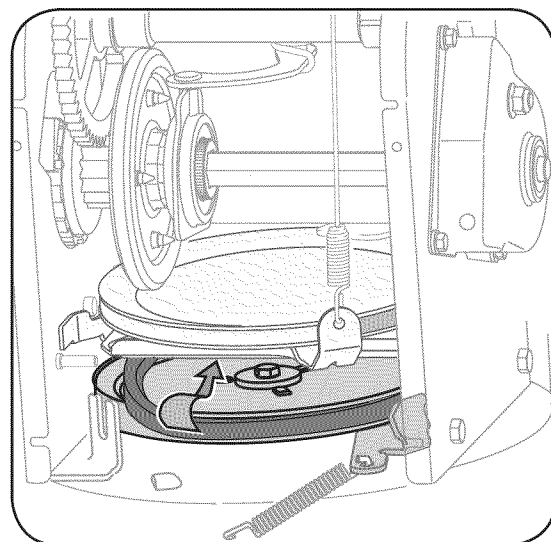

Figure 24
3. Remove old belt and replace with new belt wrapping it around the auger pulley. See Figure 24.